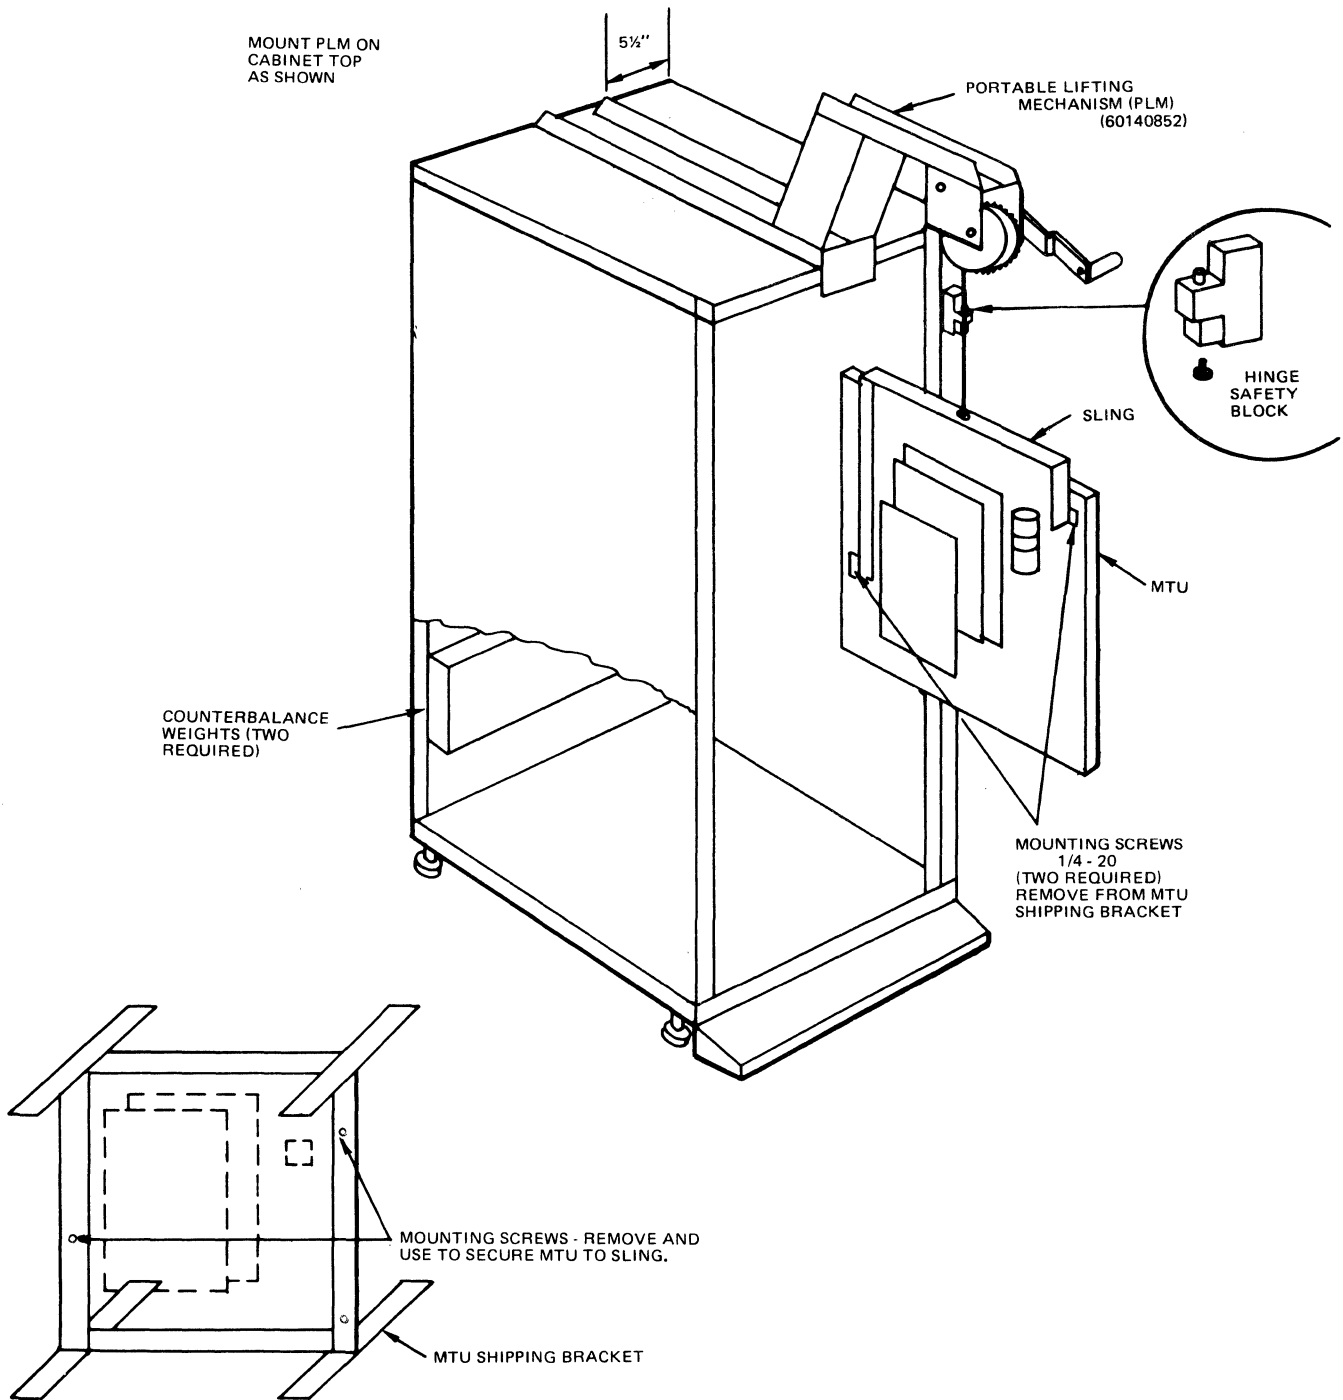

Figure 2-19. Installation of the MTU Using the Portable Lifting Mechanism
4. Position the PLM on the top of the cabinet as shown (see Figure 2-19). The lip on the rear of the PLM slips under the top of the cabinet. The PLM must be positioned so that the right side of the lip is 5 1/2 inches from the right side of the cabinet.
12. Install the hinge safety block with two screws from the hinge package supplied with the cabinet (see Figure 2-19).